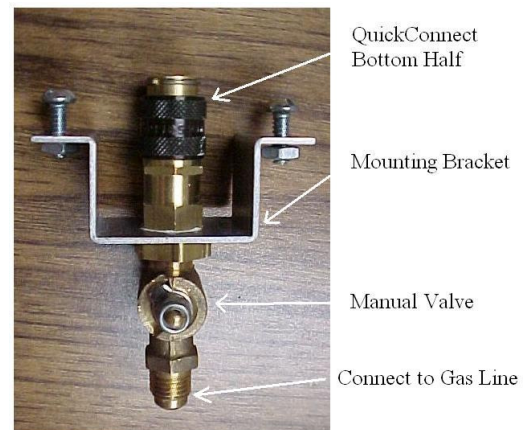

Figure 4
10. Reinstall the gaslight on the post or pier; connect the 1/4" copper gas line by tightening the 1/4" Flare Nut onto the input to the gaslight valve. If using another type of valve, attach a 1/4" x 1/8" Flare fitting if necessary (See Figure 4). Push the copper tubing down into the post (for post installations).